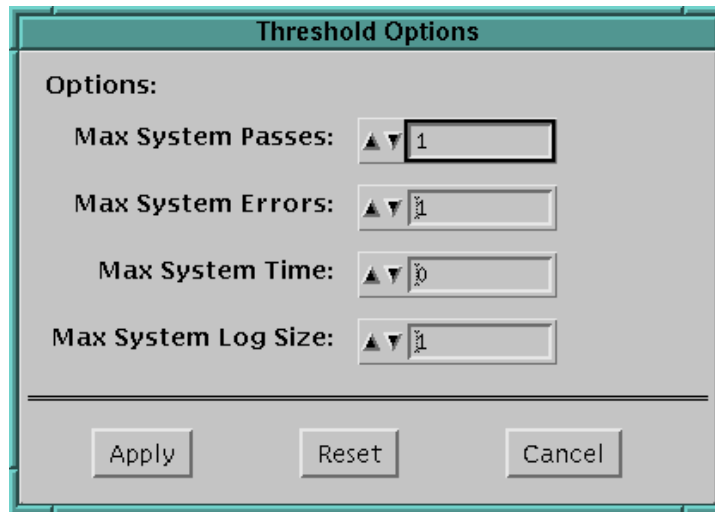

Fig. 4.4-5 WS Board Check Program Display Screen
- (2) By selecting Threshold... from Options menu, the dialog shown in Fig. 4.4-5 is displayed. Here, click ▲ button of Max System Passes: to change 0 to 1 and click [Apply] button.